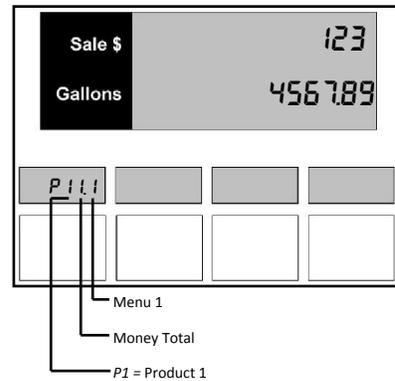

Figure 1.1 – Total Amount
1. Press the number **1** button and then the **Mode** button on the Manager's or Local Preset Keypad. The main display shows the total money amount. For example, if the total money amount for the dispenser is \$1,234,567.89 as shown in *Figure 1.1*. The PPV display reads **P1 1.1** for Product 1, Money Total, and Menu Code 1.
1. To enter the totals mode, hold the black Access Magnet over the left side of the volume display print beside the main display. When **Prev Sale** displays on the PPV display then remove the magnet. Next, tap the magnet over the Reed Switch again and **P11.1** will be displayed in the PPV display to indicate the first Money Total for Product 1 as shown in *Figure 1.1* located on the previous page.
4. Tap the magnet over the left side of the volume display print again and the Money Totals for Product 2 appear as shown in *Figure 1.1* located on the previous page. Repeat steps 2 and 3 for the Product 2 totals and the remaining hoses on this side of the dispenser.